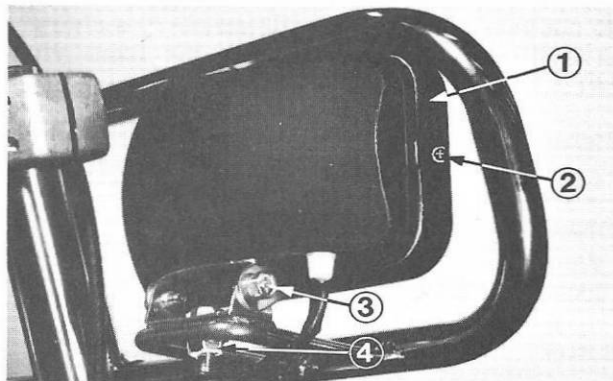

Fig. 53 ① Head Lamp Rim ③ Side Adjustment Screw
② Screws ④ Bottom Adjustment Screw
1. Loosen the two screws on the sides of the lamp housing rim (Figure 53).
2. Loosen the two side and one bottom adjustment fastener on the headlight mount (Figure 53).